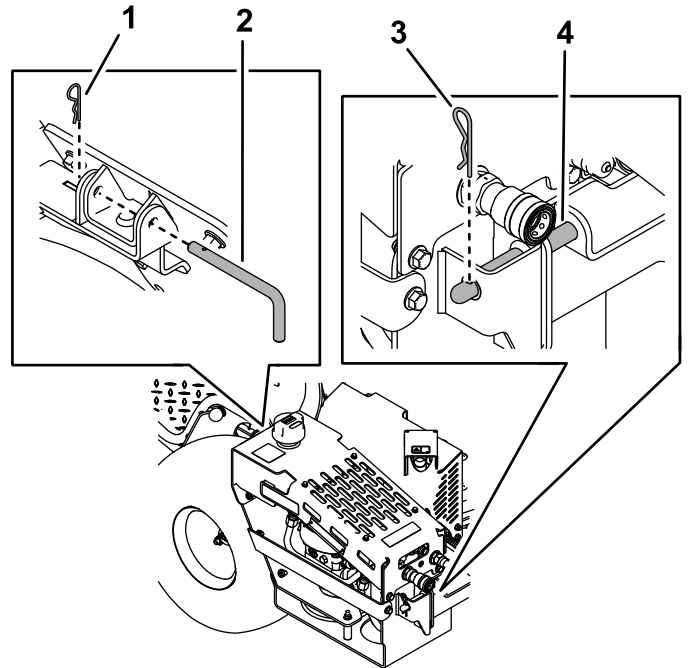

Figure 9
5. Remove the small hairpin cotter and latch pin from the rear of the assembly (Figure 9).
6. Remove the large hairpin cotter from the mount pin on the front of the assembly (Figure 9).